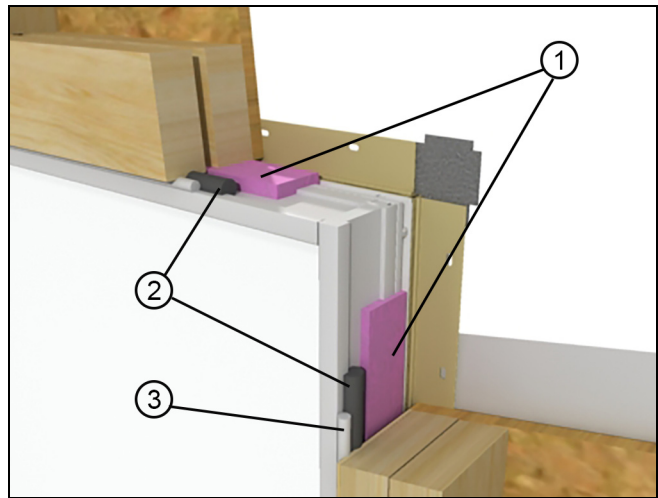

Figure 23
12. Integrate the unit with the interior air barrier of the structure by inserting backer rod into the RO and applying a continuous bead of sealant around the interior perimeter of the unit. See Figure 23.